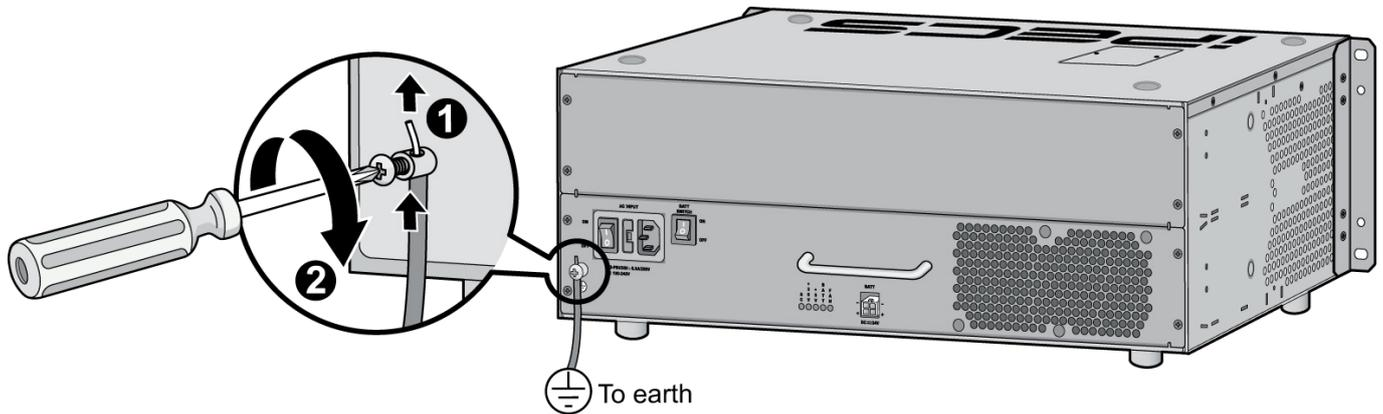

Figure 3.2.6 Grounding the KSU
1. Turn the grounding screw counter clockwise to loosen, as shown in Figure 3.2.6.